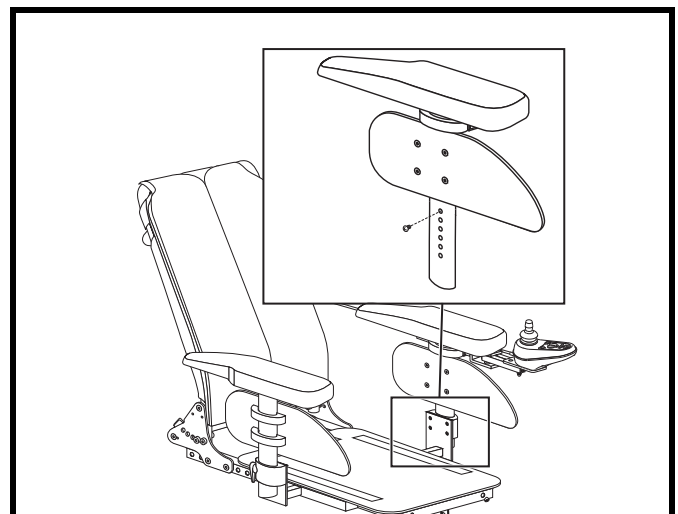

Figure 18. Armrest Bottom Height Adjustment
3. Reposition the adjustment screw to the desired height. **See figure 18.**